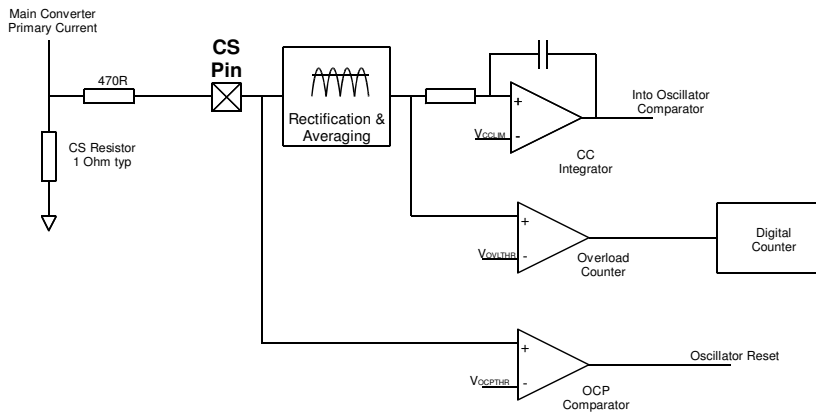

Figure 7: current protection circuits
Figure 7 shows the three current protection methods used in the converter:
Shown in Figure 7, the signal from the CS pin is divided into two different paths. The bottom path provides peak instantaneous over-current protection (OCP) while the constant current limit (CC) and the average current overload (OVL) both use the averaged current signal. The voltage on the CS pin is an AC signal biased around GND. Inside the IC, the signal is first rectified and low-pass filtered. This filtered signal is proportional to the average primary current (and therefore the output current) of the converter.
The CC limiting circuit is shown in Figure 7. The CC operation is defined by an internal control loop, using an integrator with a time constant of approximately 100 μ s.